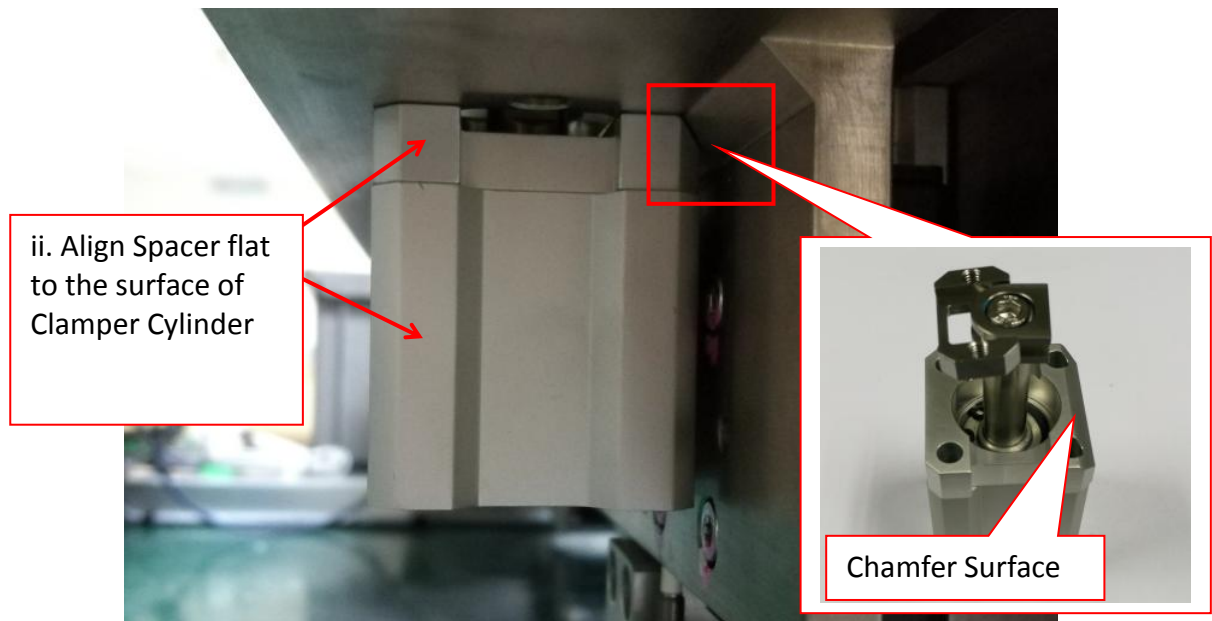

Figure 11 Clamper Cylinder Assembly
2. Position Clamper Cylinder according to below orientation. May refer to Figure 11.